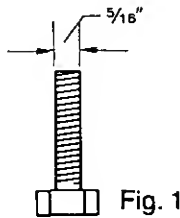

Fig. 1
3. Purchase one $\frac{5}{16}$ " bolt whose length falls between the minimum and maximum bolt length as determined in Step 2 above. (Fig. 1 & 2)